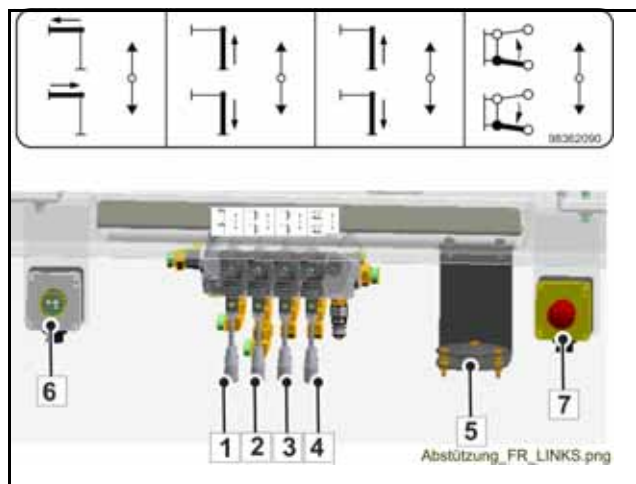

Fig. 133 Example: Outrigger control
In order to operate the outrigger, the release button (6) (**Fig. 133**) must be held down while the control levers (1 - 4) are pressed.